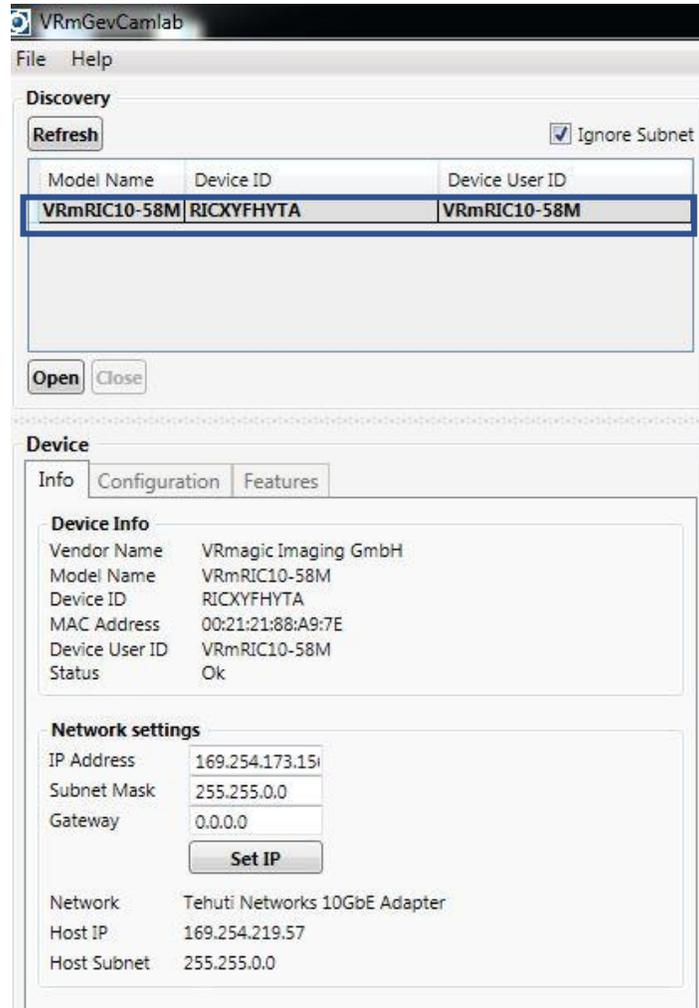

Figure 11: Selecting device to work with.
4. Then on the right window hit the Start button to start capturing live images. For this example, I am looking at base piece in our lab. Refer to Figure 11 for more detail.